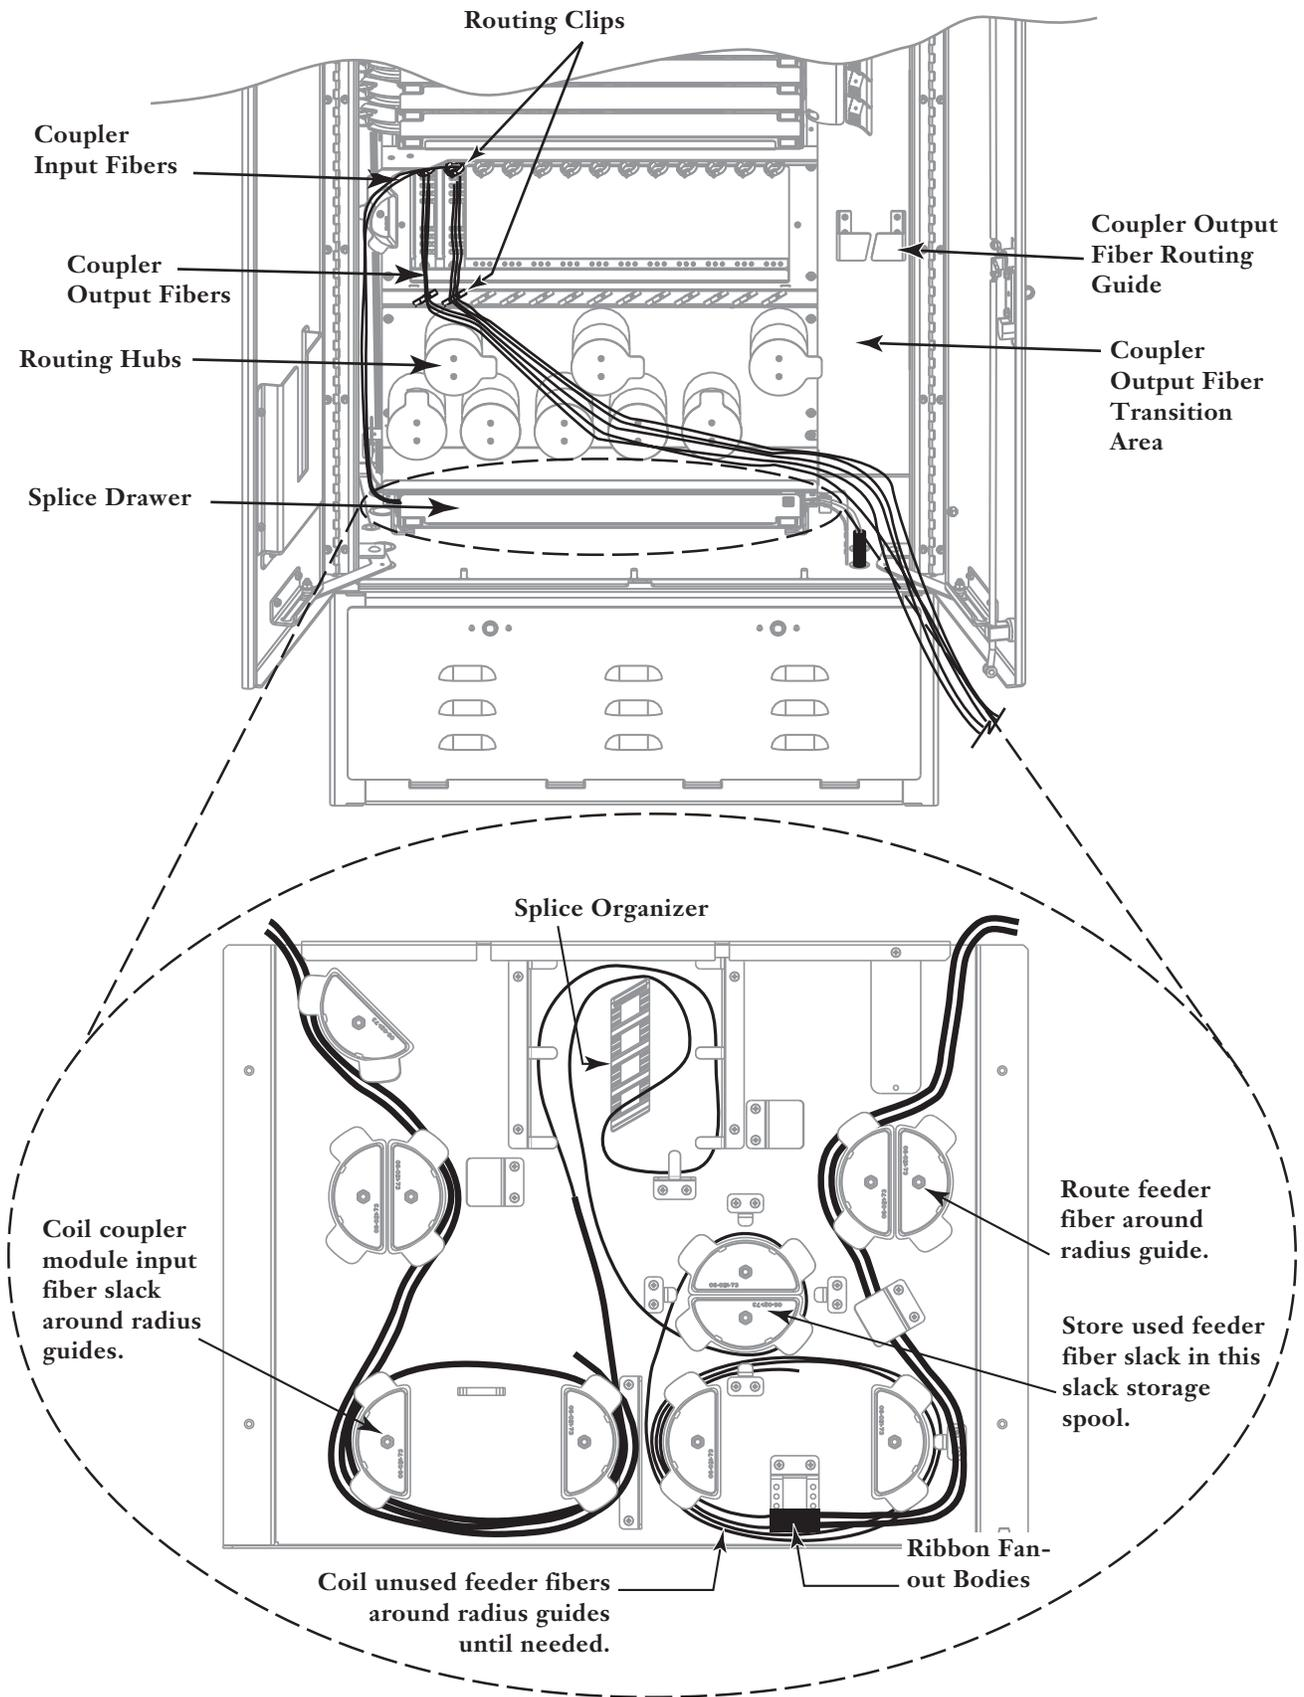

Figure 4 — Route and Splice Feeder Fiber and Coupler Module Input Fiber
- Step 2** Route coupler input fibers to the splice drawer through the routing clips above the module storage area and down the left side of the cabinet as shown in Figure 4 into the splice drawer.
- Step 7** Route and store feeder cable fiber slack in the slack storage spool (Figure 4).